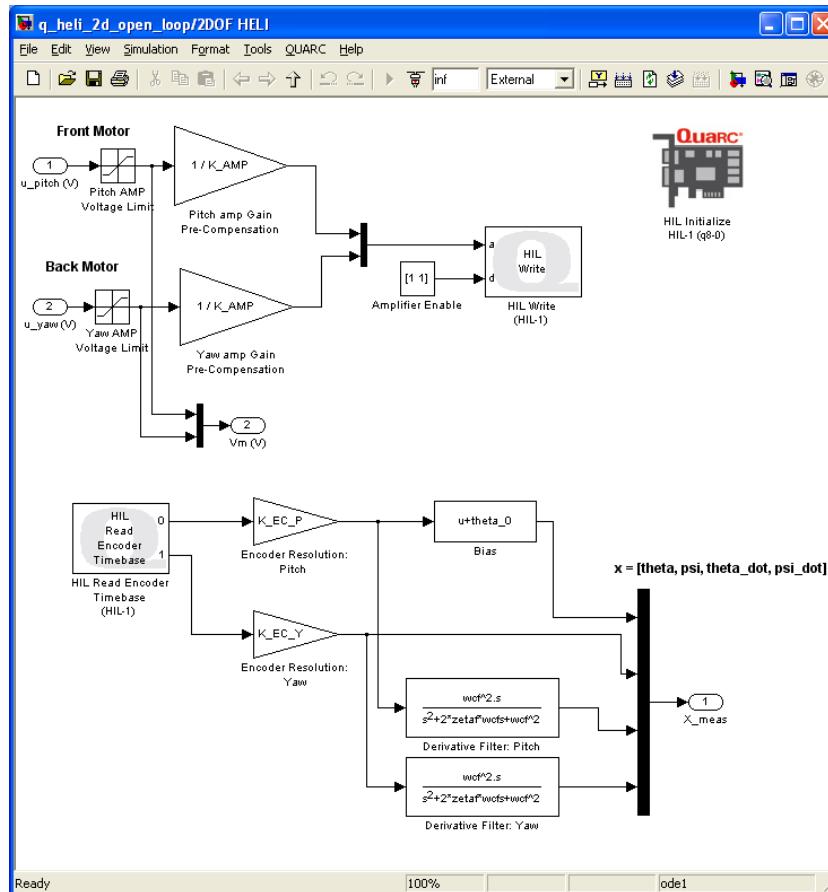

Figure 5.16: 2DOF HELI subsystem contains QUARC blocks that interface with hardware
5. Open the *2DOF HELI* subsystem. Its contents are shown in Figure 5.16. This subsystem contains the QUARC blocks that interface with the hardware of the actual plant. The Analog Output block sends the voltage computed by the controller to the DAQ device which drives the actuators and the Encoder Input block reads the encoder measurements.
6. **Configure DAQ:** Double-click on the HIL Initialize block in the Simulink diagram and ensure it is configured for the DAQ device that is installed in your system. By default the block shown in Figure 5.16 is setup for the Quanser Q8 hardware-in-the-loop board.
6. **Configure DAQ:** Double-click on the HIL Initialize block located in the *2-DOF Helicopter - Closed-loop Actual System 2-DOF HELI* subsystem (contents are as shown in Figure 5.16, above) and ensure it is configured for the DAQ device that is installed in your system. By default the block is setup for the Quanser Q8 hardware-in-the-loop board.